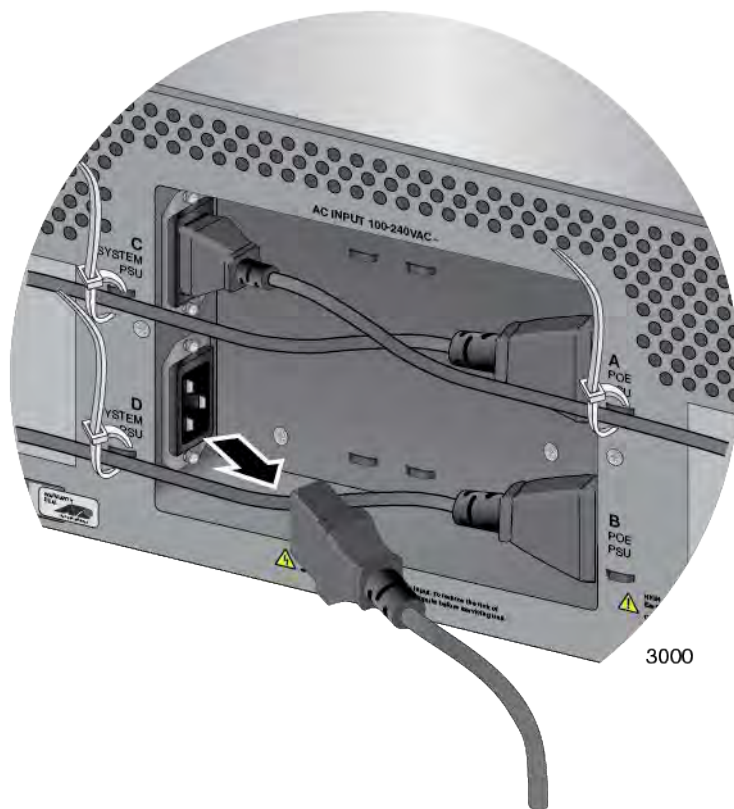

Figure 159. Disconnecting the AC Power Cord from the AC Socket on the Back Panel
1. Disconnect the AC power cord for the power supply from the AC power source and the corresponding AC socket on the back panel of the chassis. The figure in Figure 159 on page 261 shows the removal of the power cord from connector D, which corresponds to slot D on the front panel.